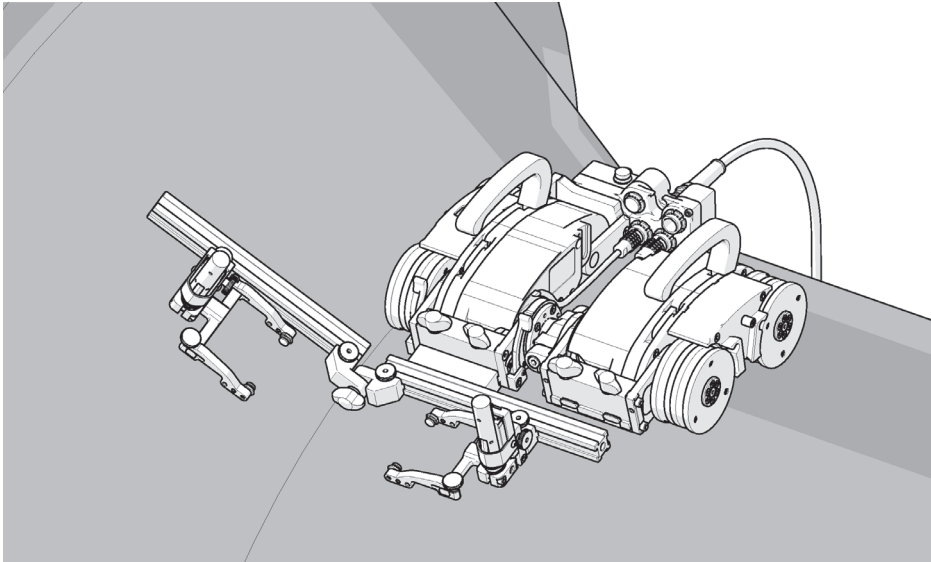

Figure 2-119 Align frame bar with flange scan surface
4. Loosen the pivot wing knob and align the frame bar parallel with the scan surface (see Figure 2-119 on page 140).